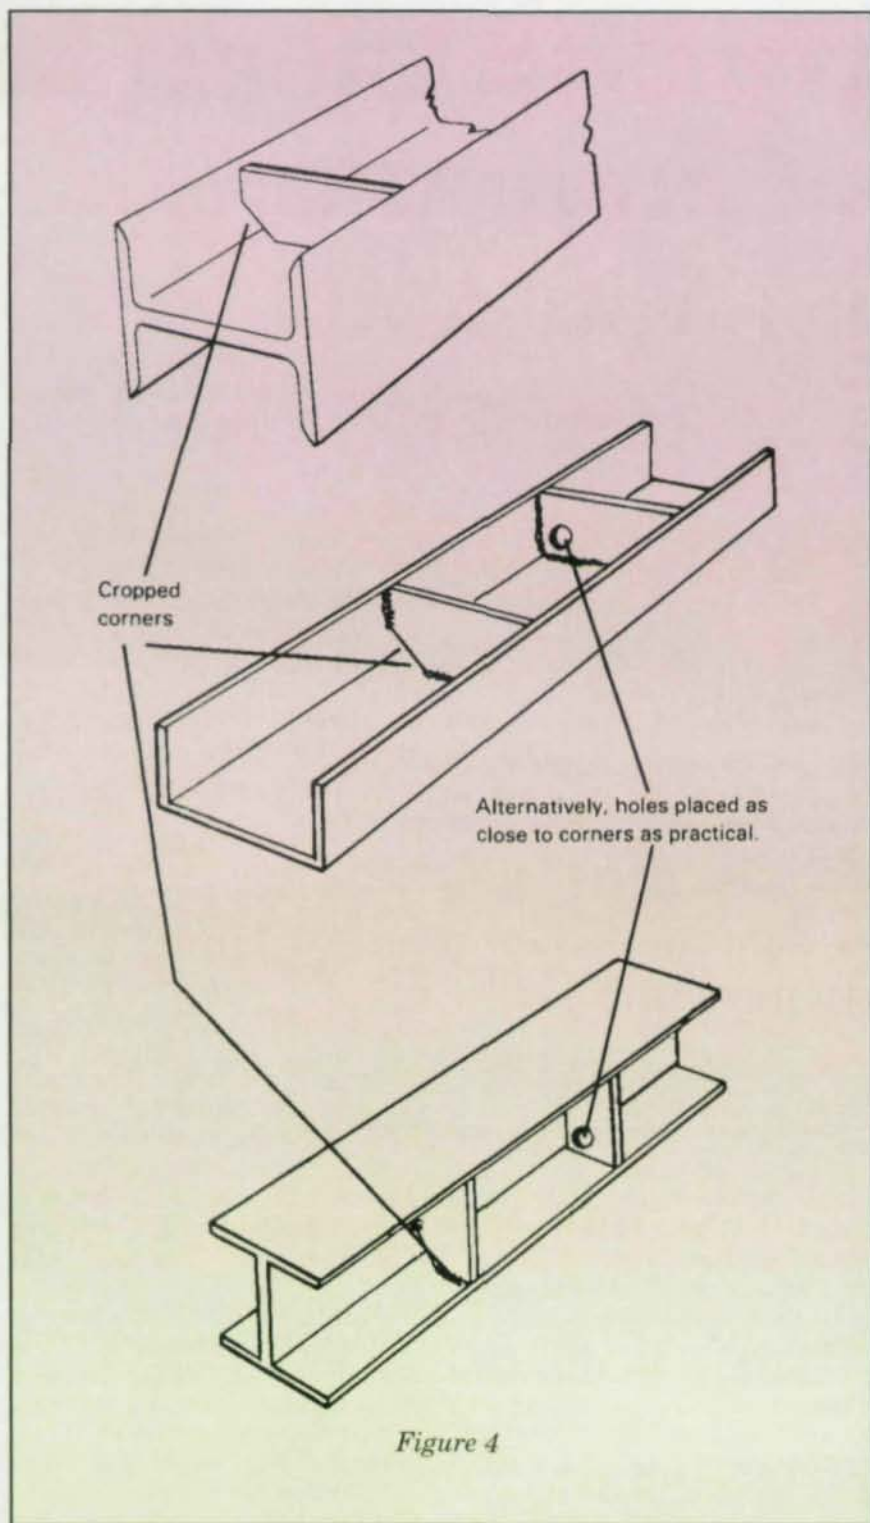

Figure 4
2. For the best drainage and run off of the pre-flux and molten zinc, avoid boxed-in sections whenever possible. Notch fabrications with stiffeners in order to permit the free flow of zinc to and away from all surfaces (See Fig. 4). Not taking this precaution results in unsightly buildup of zinc.